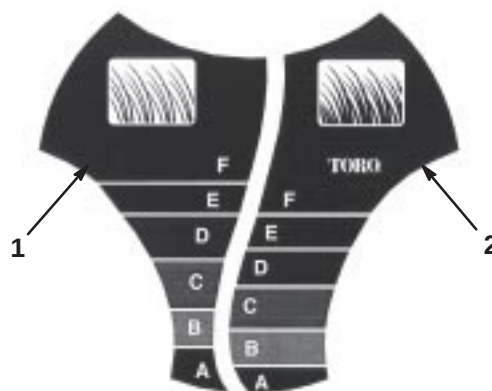

Figure 12
The *SmartWheel*™ has 2 cutting scales: Sparse/Normal and Lush—to ensure the best cutting height setting in any mowing condition (Fig. 12). Use the Sparse/Normal scale during the warm summer season for the majority of your mowing. The Lush scale is for thick, moist, and succulent grass that grows most often in the spring.
2. Move the lawn mower into the grass; stop moving the lawn mower when the *SmartWheel* design on one of the rear wheels is upright (Fig. 12).